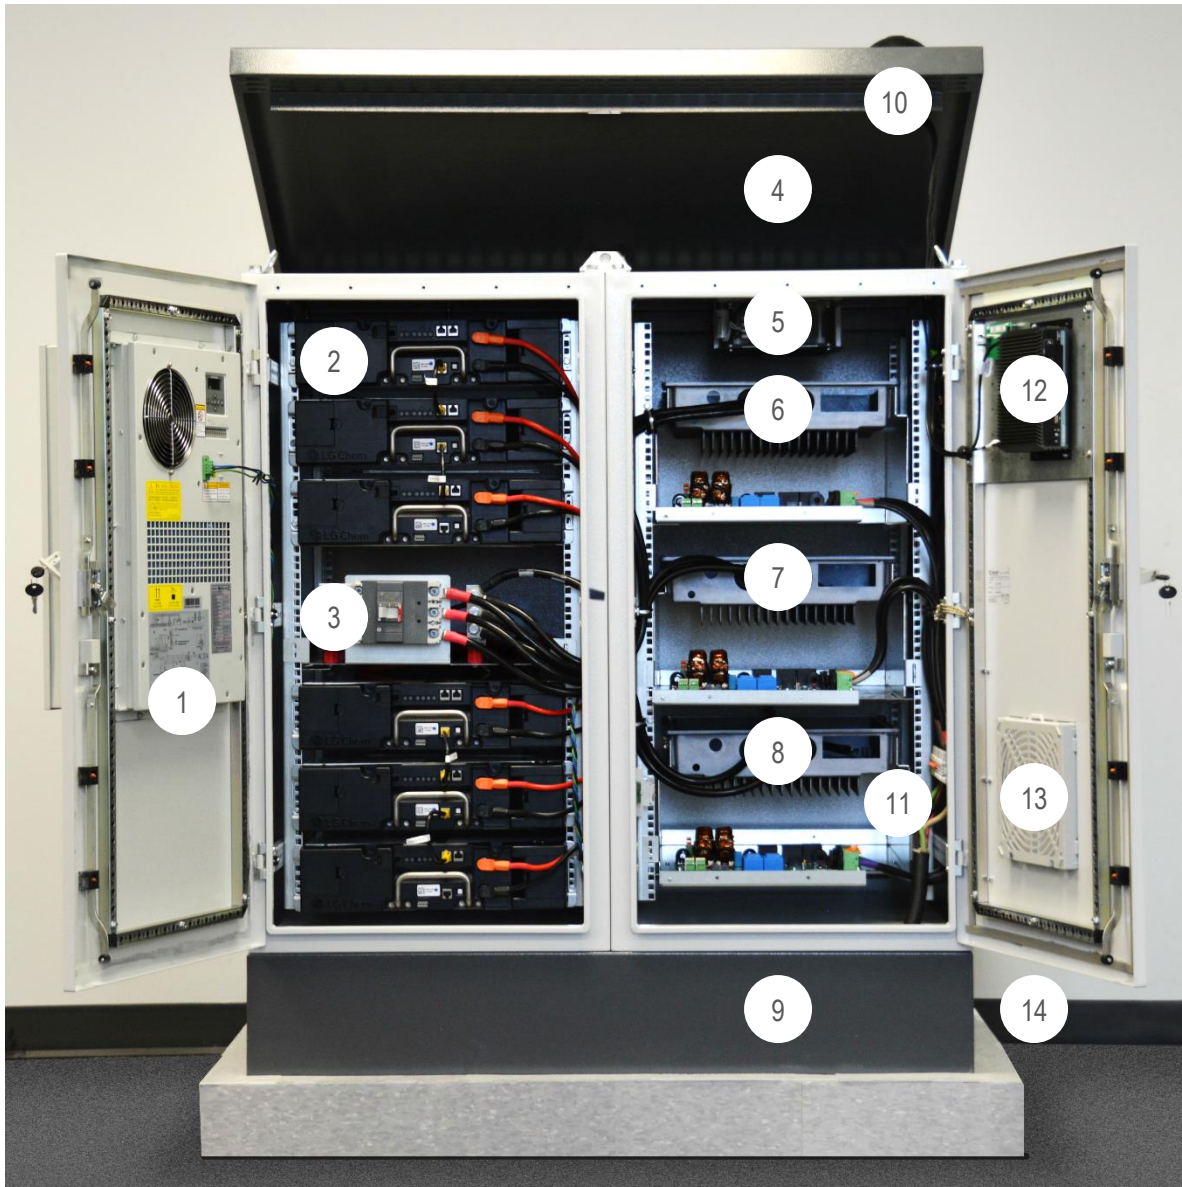

Figure 8: System Internal Layout.
1. Connect the communication cable to the [EMS In] port (RJ-45) of the master PCS module (ref: fig 8, item 6). Refer to the PCS pinout table below for terminating the PCS end. Refer to the EMS instruction manual for communication wiring to the EMS.